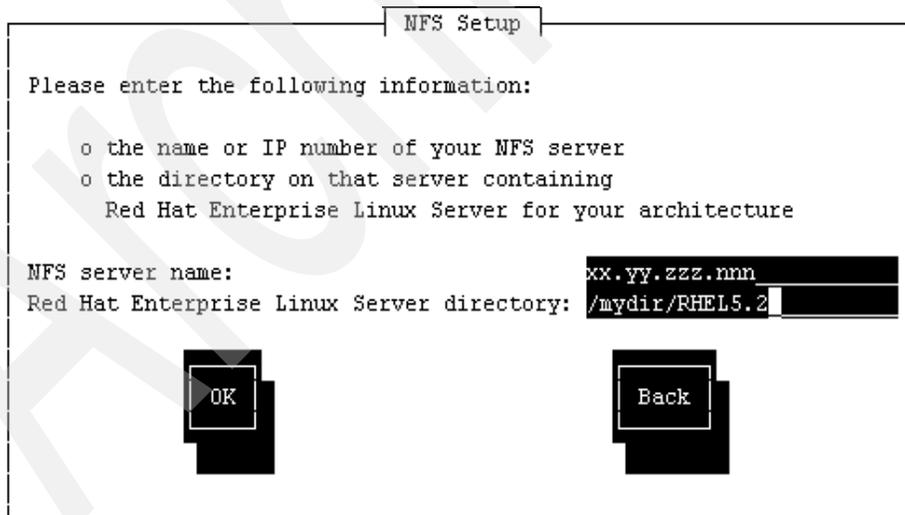

Figure 6-12 NFS server configuration window
8. In the NFS Setup window in Figure 6-12, enter the IP address of the NFS server and in the field directly below that, enter the NFS directory that contains the Red Hat Enterprise Linux 5.2 install image.